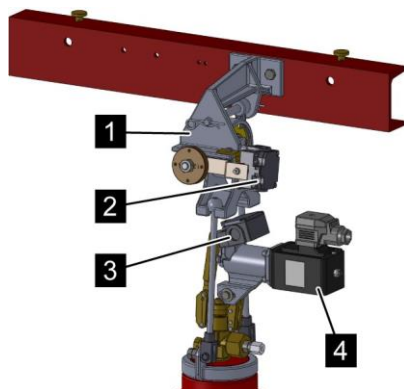

Fig. 33: Pneumatic release device (PAE)
- Weighing device (Fig. 33/1)
- Leakage monitoring (Fig. 33/2)
- Monitoring of the EM release device (Fig. 33/3)
- EM release device (Fig. 33/4)